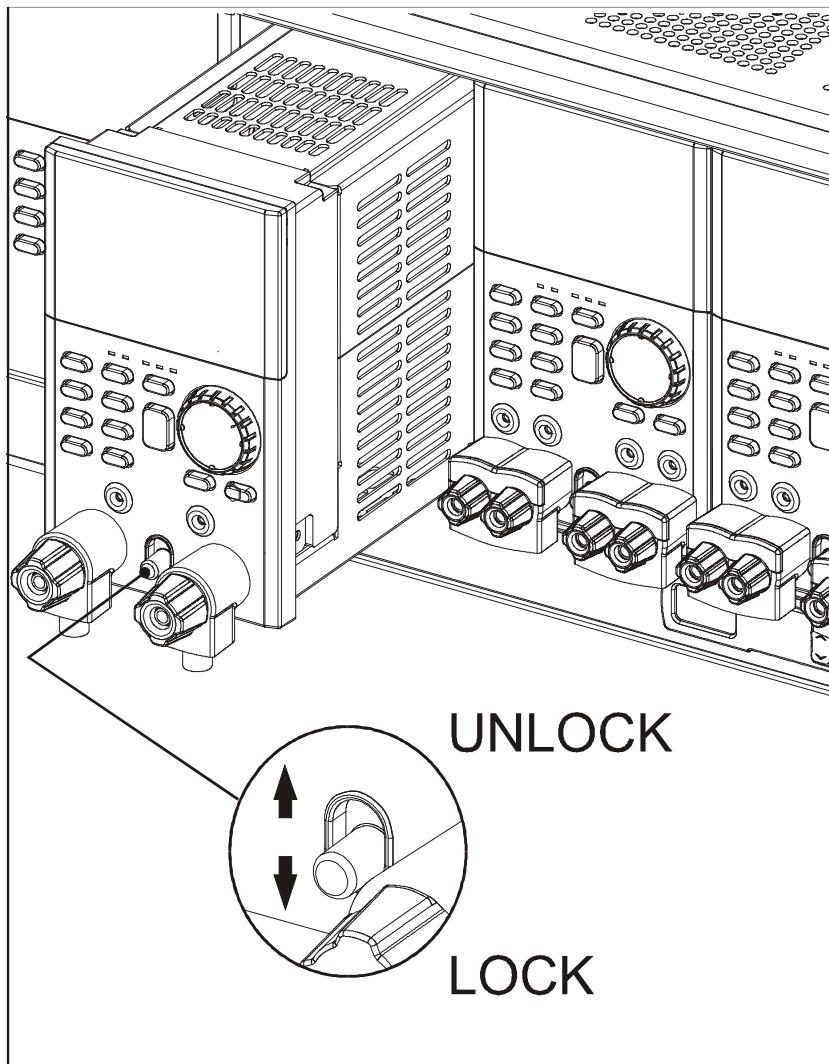

Figure 2-2 Installing Modules in the Electronic Load
3. Start by installing a module into one of the open slots (see Figure 2-2).